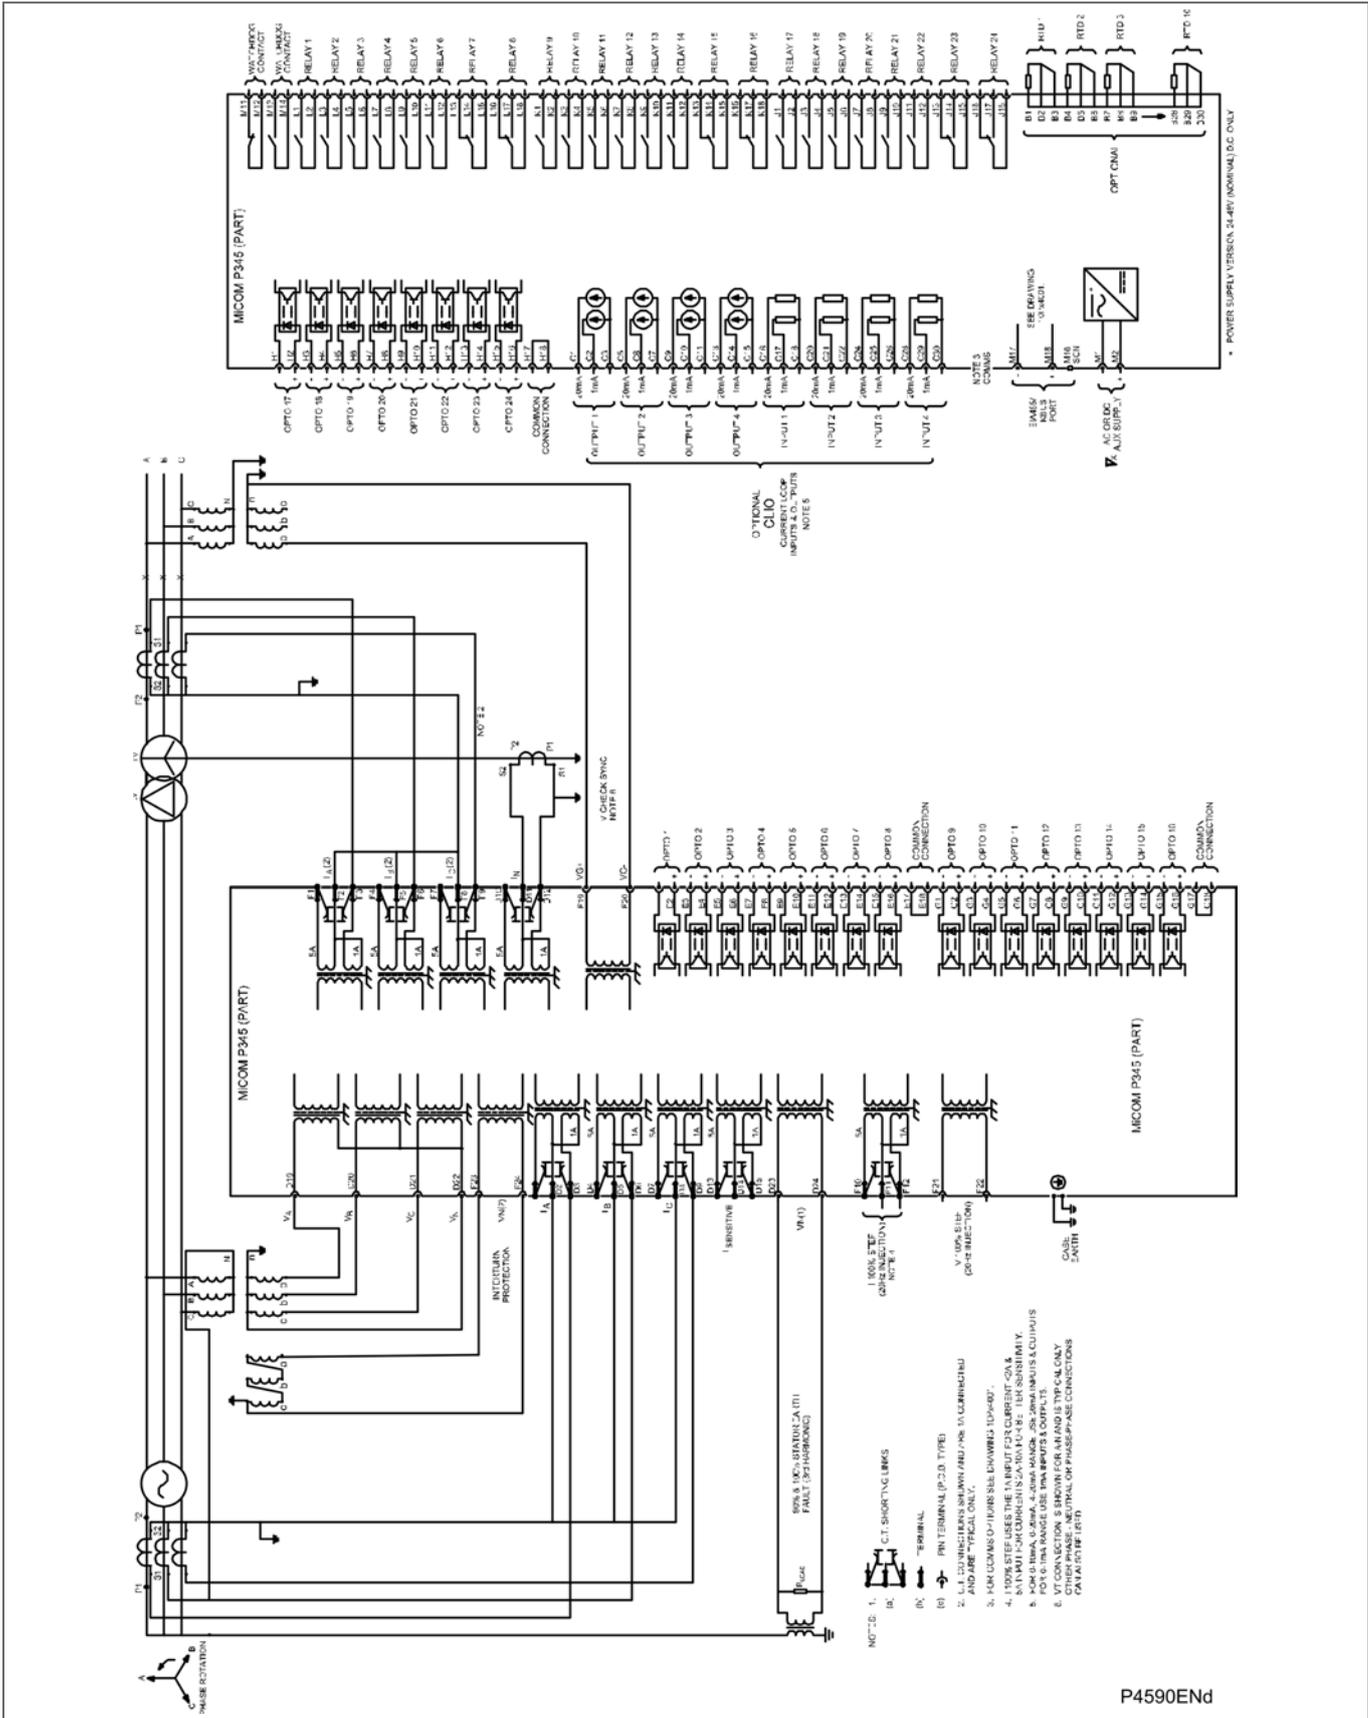

Figure 80 - P345 (80TE) for biased generator-transformer differential & check synchronizing (24 I/P & 24 O/P & CLIO & RTD)
- Figure 80 - P345 (80TE) for biased generator-transformer differential & check synchronizing (24 I/P & 24 O/P & CLIO & RTD)